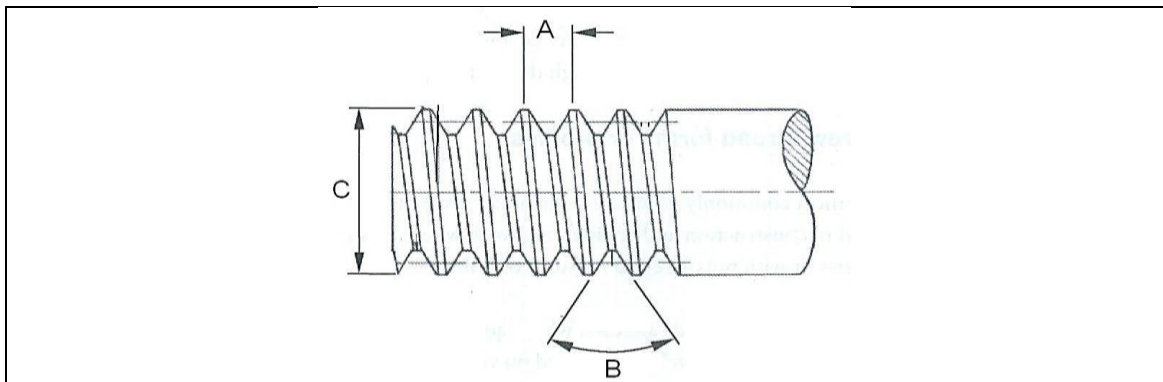

FIGURE 9.2
9.2 Screw threads are fundamental to industrial progress. FIGURE 9.2 is an external metric screw thread which can be manufactured by cutting on a lathe.
IDENTIFY the labels (A, B and C) on the screw thread as shown in FIGURE 9.2 and write down each one's DEFINITION. (3 + 3) (6)
9.3 A clutch is a device in which two shafts or rotating members may be connected or disconnected. Clutches can be divided into three types, according to the means of power transmission. Name the THREE categories. (3)